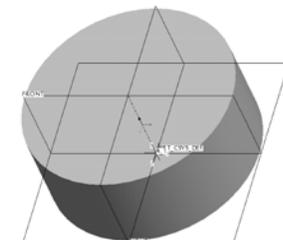

Fig. 2.35.
9. Accept the feature creation.	<p> → VIEW → STANDARD ORIENTATION</p> <p>Refer to Fig. 2.35.</p>
11. Define the sketch plane.	<p>To select the sketch plane, click Placement (in the dashboard) → Define</p> <p>Creo brings up the “Sketch” window.</p> <p>Refer to Fig. 2.35.</p> <p>Sketch the section on the previous sketch plane - the TOP datum plane.</p> <p>Use Previous</p>